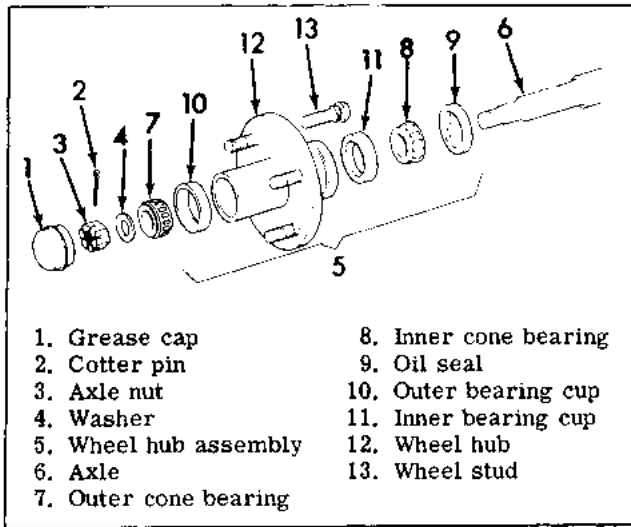

Figure 2C-45A. Front Wheel Hub, 4 Wheel Car - Exploded View
**REMOVING TIRE FROM RIM, FRONT OR REAR WHEEL (Figure 2C-47)**